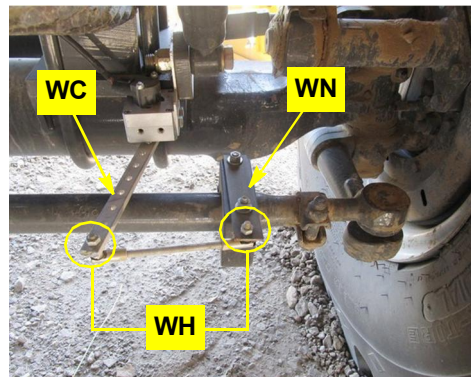

Figure 2c: WAS assembly installed
- c. Using hardware **WH**, install the link rod assembly from step 1 between the last hole in WAS arm **WC** and bracket **WN**. Set the swivel studs upward into **WC** and **WN** (Figure 2c). Leave **WH** loose.